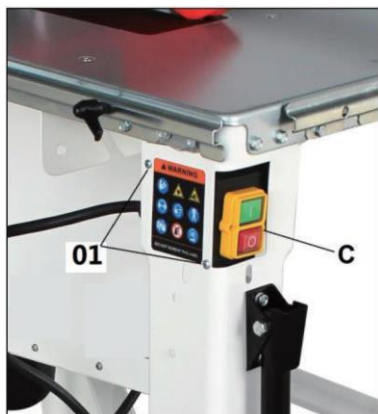

Fig. 7
Insert the switch/plug block (C) into the opening in the leg and secure tightly from the side with 2 screw (01) Fig. 7.